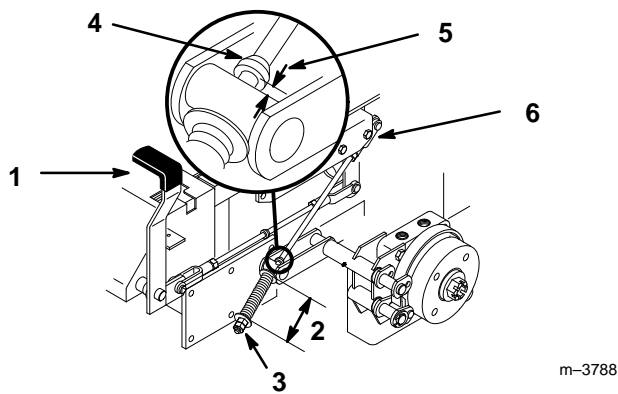

Figure 32
2. Measure the length of the spring. Measurement should be 2.9" (74 mm) between washers (Fig. 32).
3. If adjustment is necessary, loosen the jam nut below the spring and tighten the nut directly below the yoke (Fig. 32). Turn the nut until the correct measurement is obtained. Tighten the two nuts together and repeat on opposite side of unit.
6. Measure the distance between the trunnion roller and the collar on brake rod . Measurement should be 3/16"–1/4" (5–7 mm) (Fig. 32).
7. If adjustment is necessary, loosen the jam nut directly below the yoke. Turn the bottom rod until the correct measurement is obtained (Fig. 32). Tighten jam nut at yoke